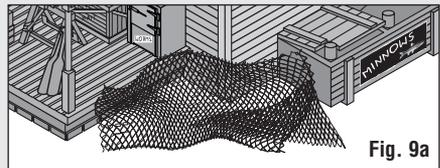

Fig. 9a
- Use white glue to attach Fishnet (Netting) along the right side of the Bait & Tackle Shop (Fig. 9a).